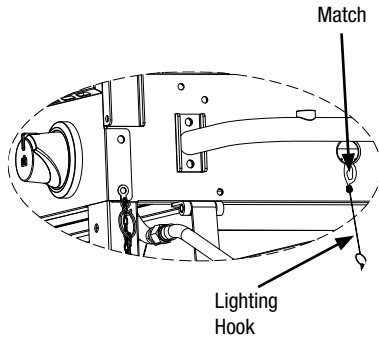

Figure 4
- 8. If igniter does not light burner, use a lit match secured with the Lighting Hook (included with the griddle) to light burners. Access the burners from under the griddle. Position lit match near side of burner (Figures 4 and 5).